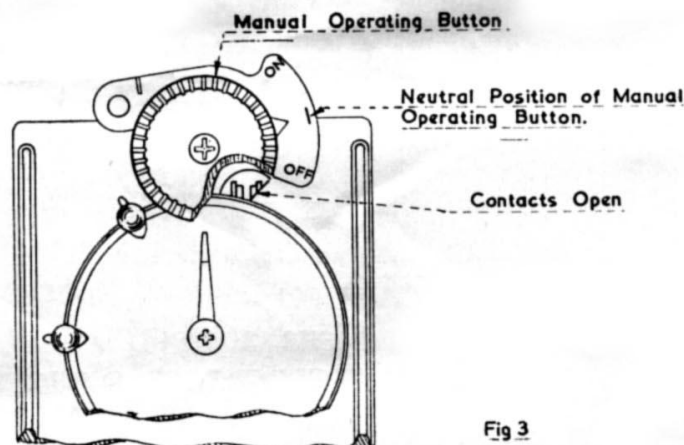

Fig 3
2. The position of the contacts may be seen through the aperture to the lower right hand of the M.O. Button *fig. 3*. If these are incorrectly set, i.e. open when required closed or vice versa, attach a dial tappet to the rim on the left of the M.O. Button, rotate the dial—clockwise—until the tappet appears to the right of the M.O. Button and it will be found that the contacts are now in the position required.